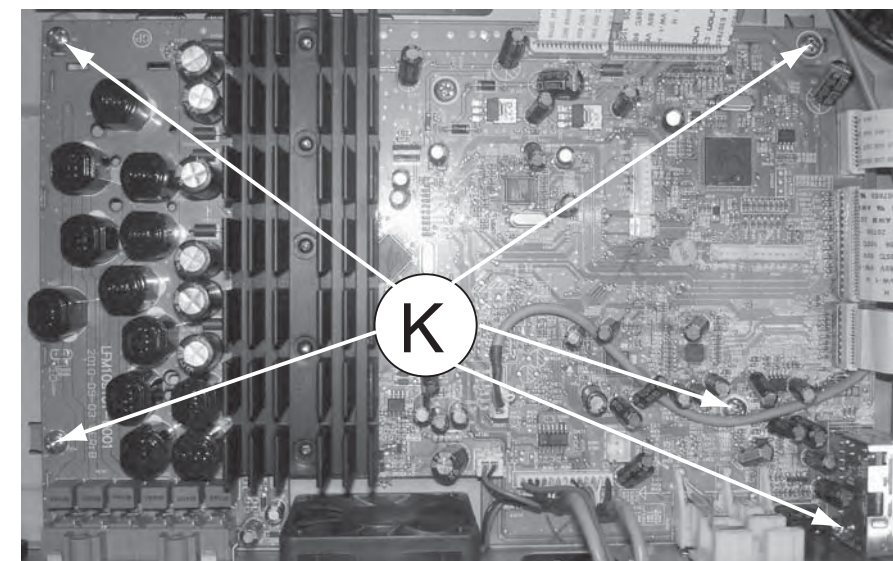

Figure 14
- 1) Loosen 5 screws "K" on the top of Main Board as shown in figure 14.